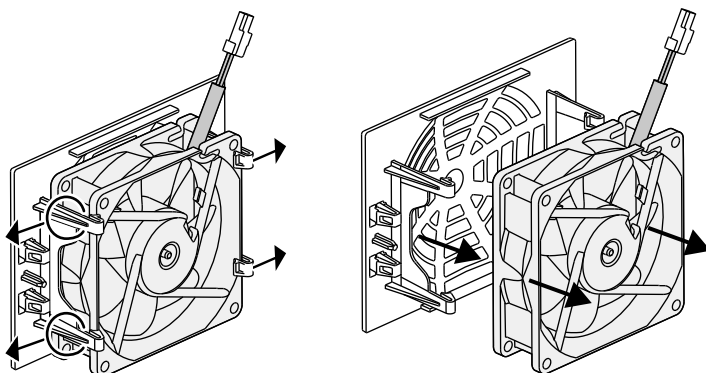

Fig. 66: Disassembly of the fan grill
5. The fan can also be pulled off the fan grill. To do this, press the fastening straps slightly outward and pull off the fan. **Fig. 66**